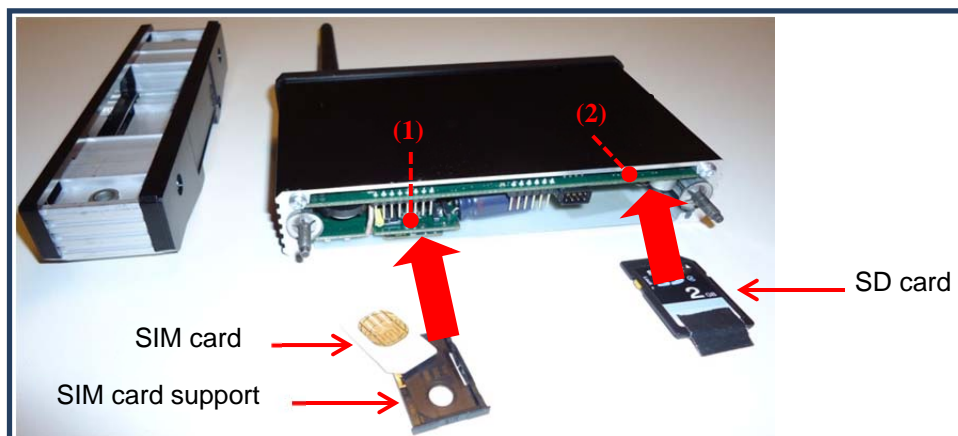

Figure 1
- 3) Insert the SD card containing the configuration file in (2) (figure 1), press it as far as possible, so that it does not exceed the Module.
**The SD card is difficult to remove. You will need a pair of long-nosed pliers or to stick a sticker to get a hold of the SD card (see Figure 1).**
- 1) For the GPRS module, mount the antenna supplied with the TAC4 GPRS module and install the SIM card (not supplied) (see (1) Figure 1).